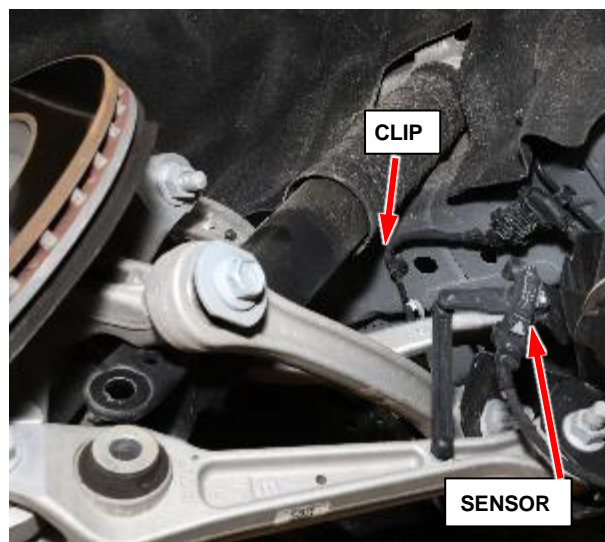

Figure 12 – Ride Height Sensor Cable Fastener
13. Remove the ride height sensor cable fastener (clip) at the body (if equipped) (Figure 12).
26. Install the ride height sensor cable fastener (clip) to the body (if equipped) (Figure 12).